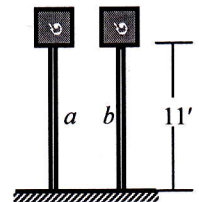

Fig. 1
5. Fig. 1 shows two objects , each weighing 3333 k, supported on 11'-high RC square Column a (size 33"×33") and circular Column b (33"-diameter) subjected to design earthquake ground motion in Sylhet. Calculate the